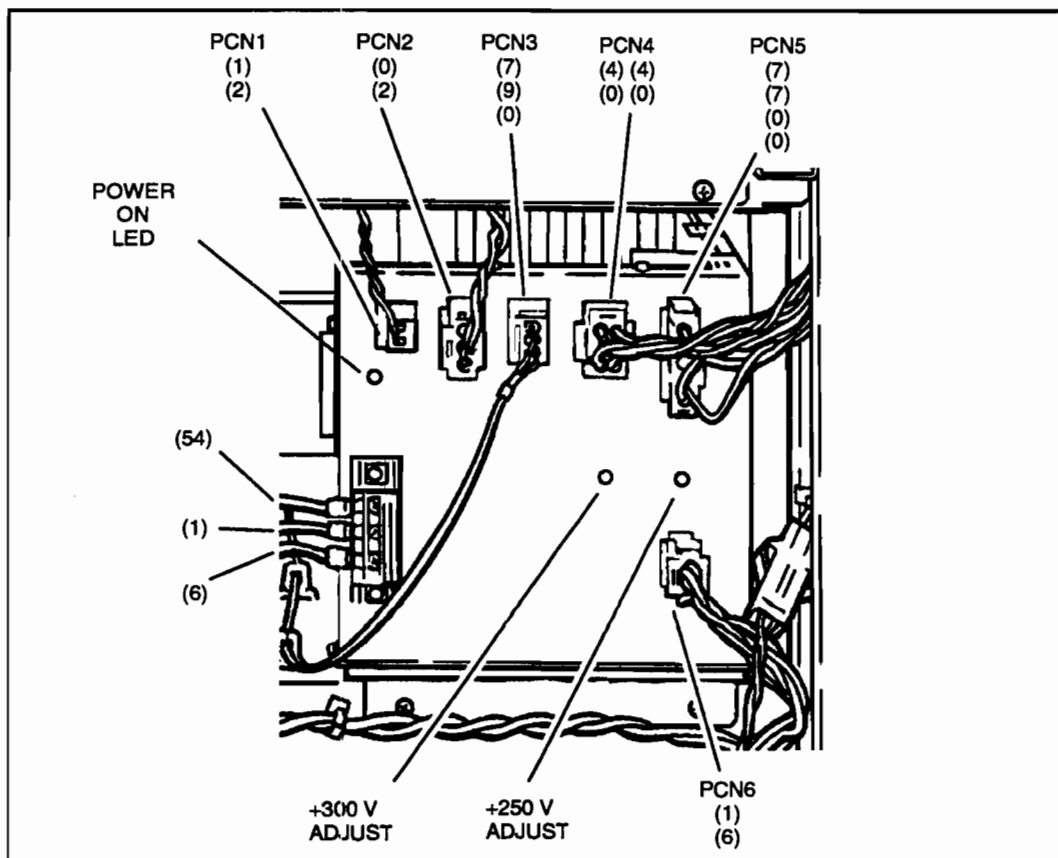

Figure 8-22. HPS1 Connectors
1. Turn the plotter line switch ON (I).
4. With the rear cover open, remove connectors PCN4 and PCN5 from the back of the HPS1 power supply. See Figure 8-22.
9. If a repair or replacement was accomplished at step "7.", check the resistance readings at step 6. If they are correct, return to the beginning of this procedure and check the high voltage again. If the high voltage power supply "Power-On" LED fails to light, or one of the voltage readings at step "5." is not adjustable to its nominal value, replace the high voltage power supply. The locations of the adjustment potentiometers are shown in Figure 8-22.